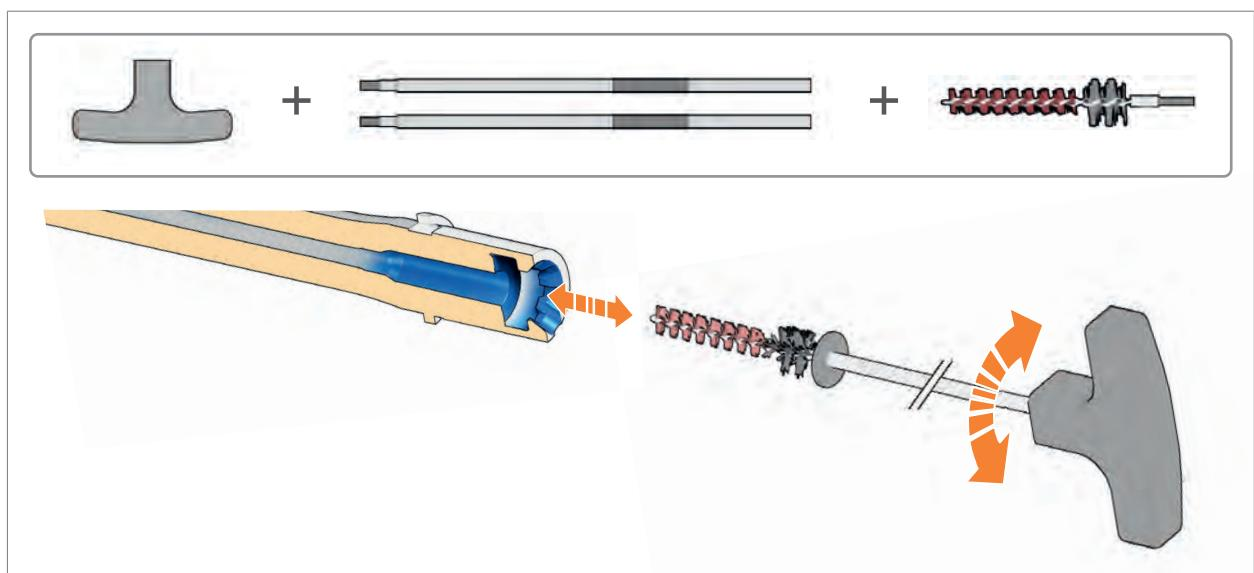

Fig. 103: Using the T-pistol grip
1. Screw the T-pistol grip, 2 extension rods and cleaning brush for chamber and locking together (Fig. 103).
2. Clean chamber and locking piece with cleaning brush (Fig. 103).